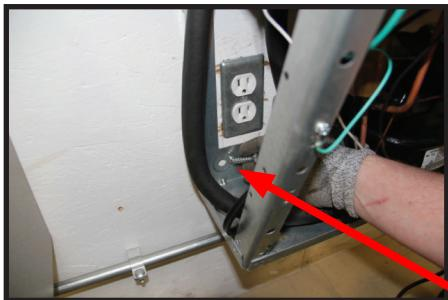

FIG. 2
5) Secure cooler frame to wall by installing (2) screws and washers (not supplied) in lower holes. (See Fig. 2, Pg. 5). Make sure the screws engage in a structural member.